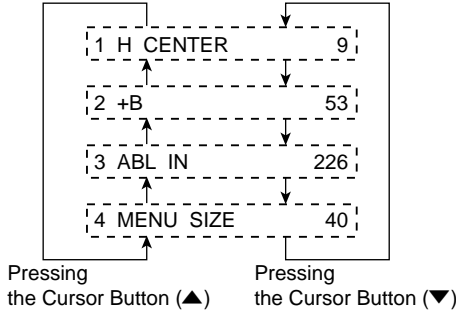

Fig. 3-3
- The item of the DEF MENU changes as shown in Fig. 3-3.